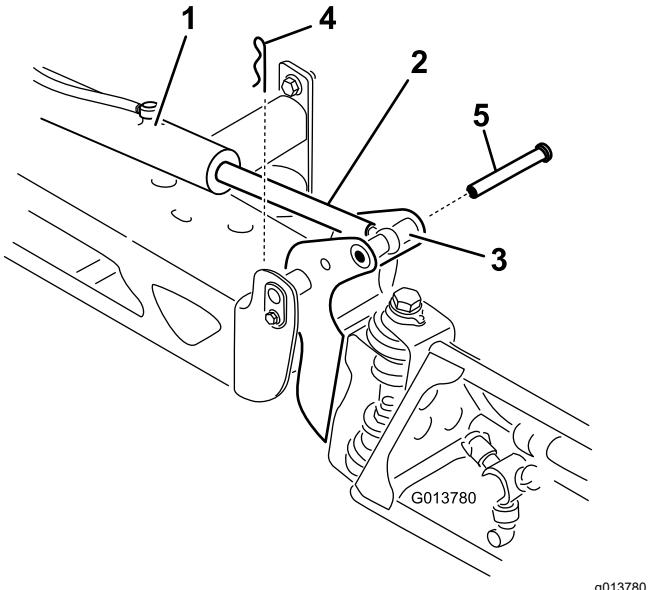

Figure 63
2. Remove the cotter pin from the pivot pin (Figure 63).
3. Lift up on the boom and remove the pin (Figure 63), and slowly lower the boom to the ground.
9. While holding the boom, insert the pin through both boom pivot and actuator rod (Figure 63).